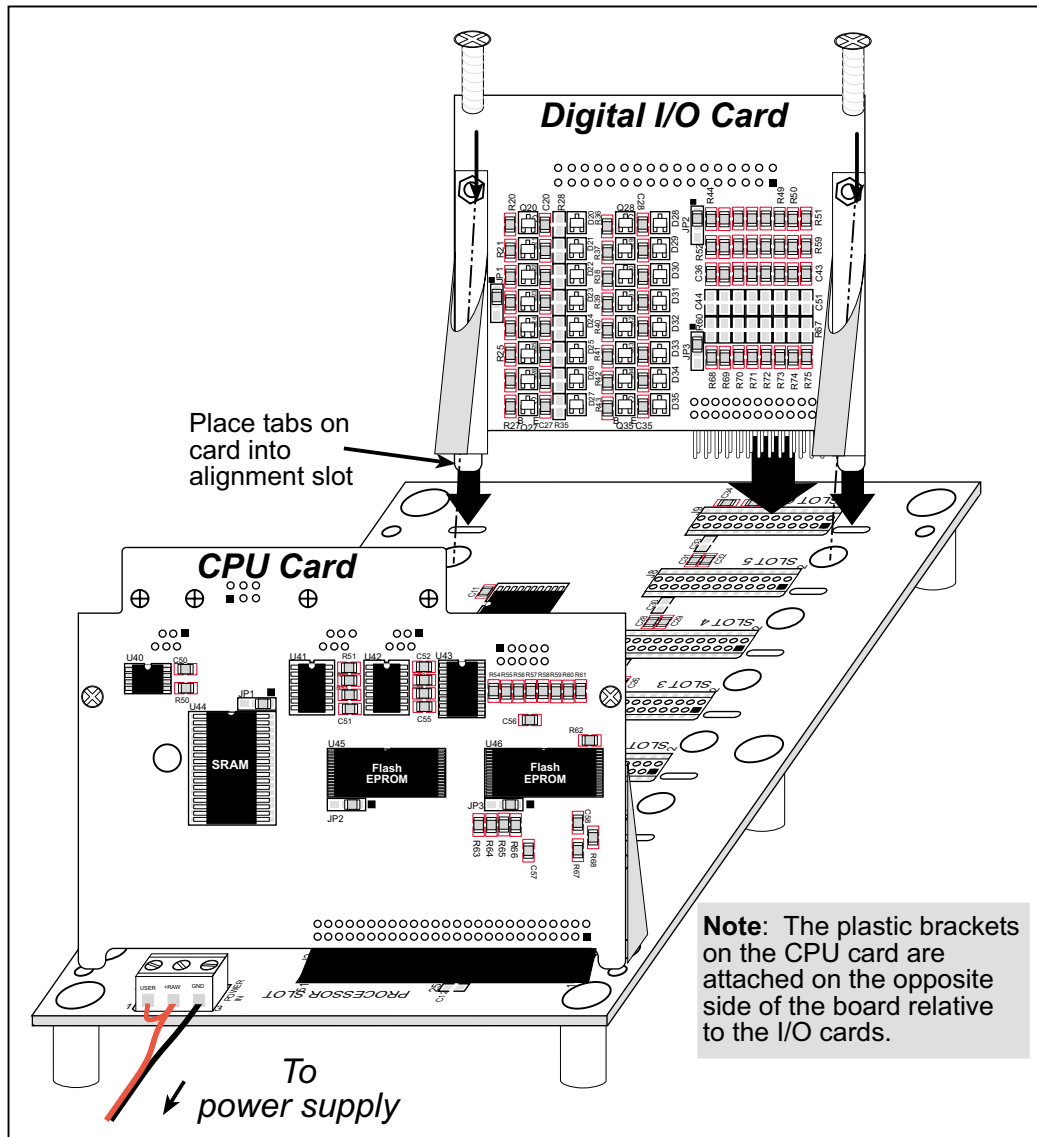

Figure 1. Installing Digital I/O Cards on the Backplane
1. Orient the backplane with the CPU card already installed and facing towards you as shown in Figure 1.
2. Position the digital I/O card above the backplane over any unused slot position (**SLOT 0** to **SLOT 6**) as shown in Figure 1. Note the slot number and the type of I/O card since Dynamic C addresses the I/O cards by slot number.
3. Carefully insert the digital I/O card header into the slot on the backplane and line up the tabs on the card with the slots on the backplane as shown in Figure 1.